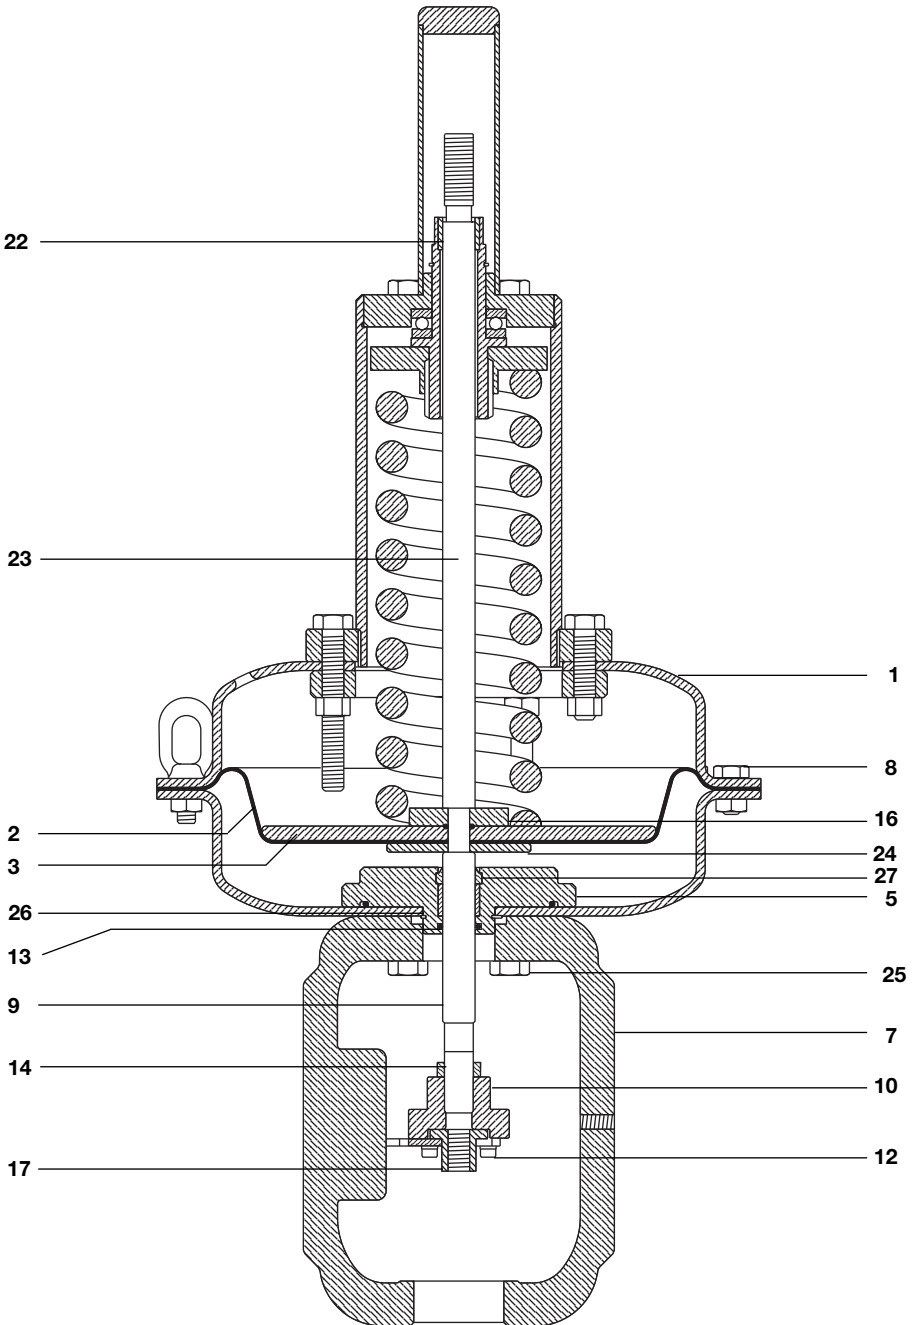

Fig. 9 PN1300 to PN1600 series
5.3 PN1000 series (Refer to Figure 9):